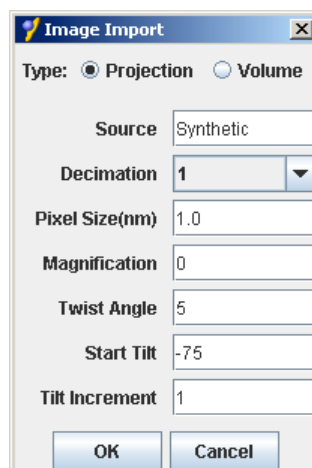

Figure 8: Dataset import window
- Select **OK** and the dataset import window will appear (Figure 8).
Fill in the **Image Import** fields so they match the values in Figure 8.